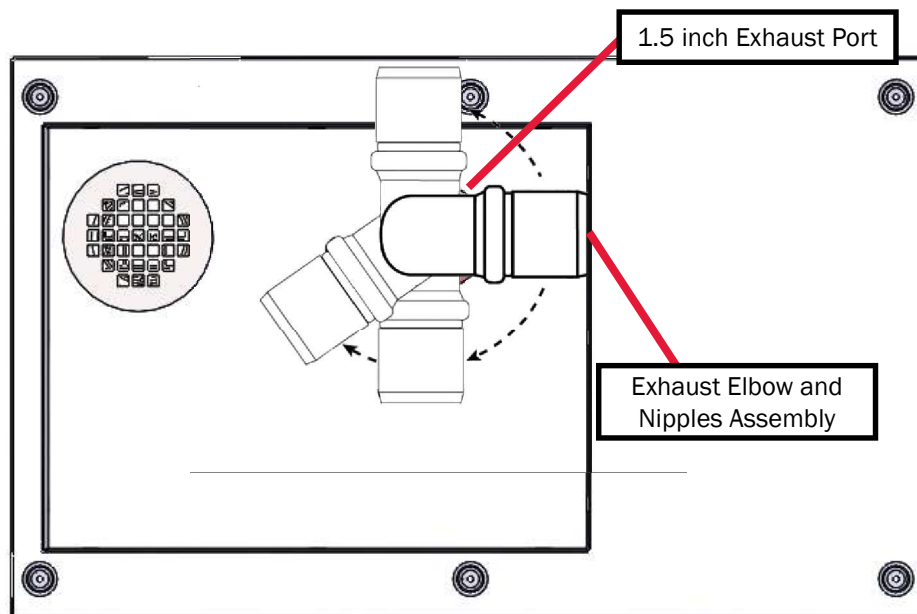
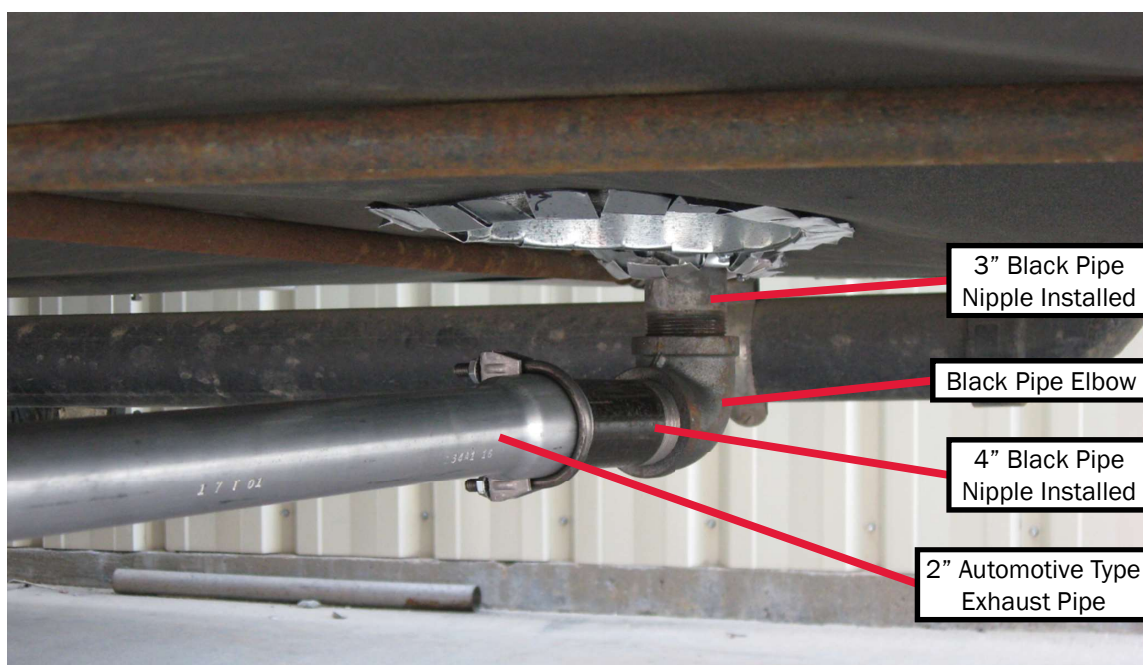

Figure 17
Figure 19
- Angle the exhaust pipe towards the rear of the vehicle, so that exhaust fumes will naturally move away while the vehicle is in motion. See Figure 17.
- Use standard 2" automotive-type exhaust piping and avoid bends, if possible. A minimum 1.75" ID automotive-type exhaust pipe may be used. See Figure 17 & Figure 19.
- Do not use galvanized pipe fittings (only black-iron pipe and fittings should be used). Reference Figure 19.
3. Slide the exhaust tip over the end of the exhaust pipe, being sure to leave a required clearance of one inch between the band on the tip and the end of the exhaust pipe. Mark where the holes should be drilled to allow for a #8 sheet metal screw $\frac{3}{8}$ inch in length to securely mount the exhaust tip to the exhaust pipe. Drill the holes in the pipe and mount the exhaust tip. This will prevent excessive air movement up the exhaust pipe, preventing the propane burner from extinguishing. See Figure 17.